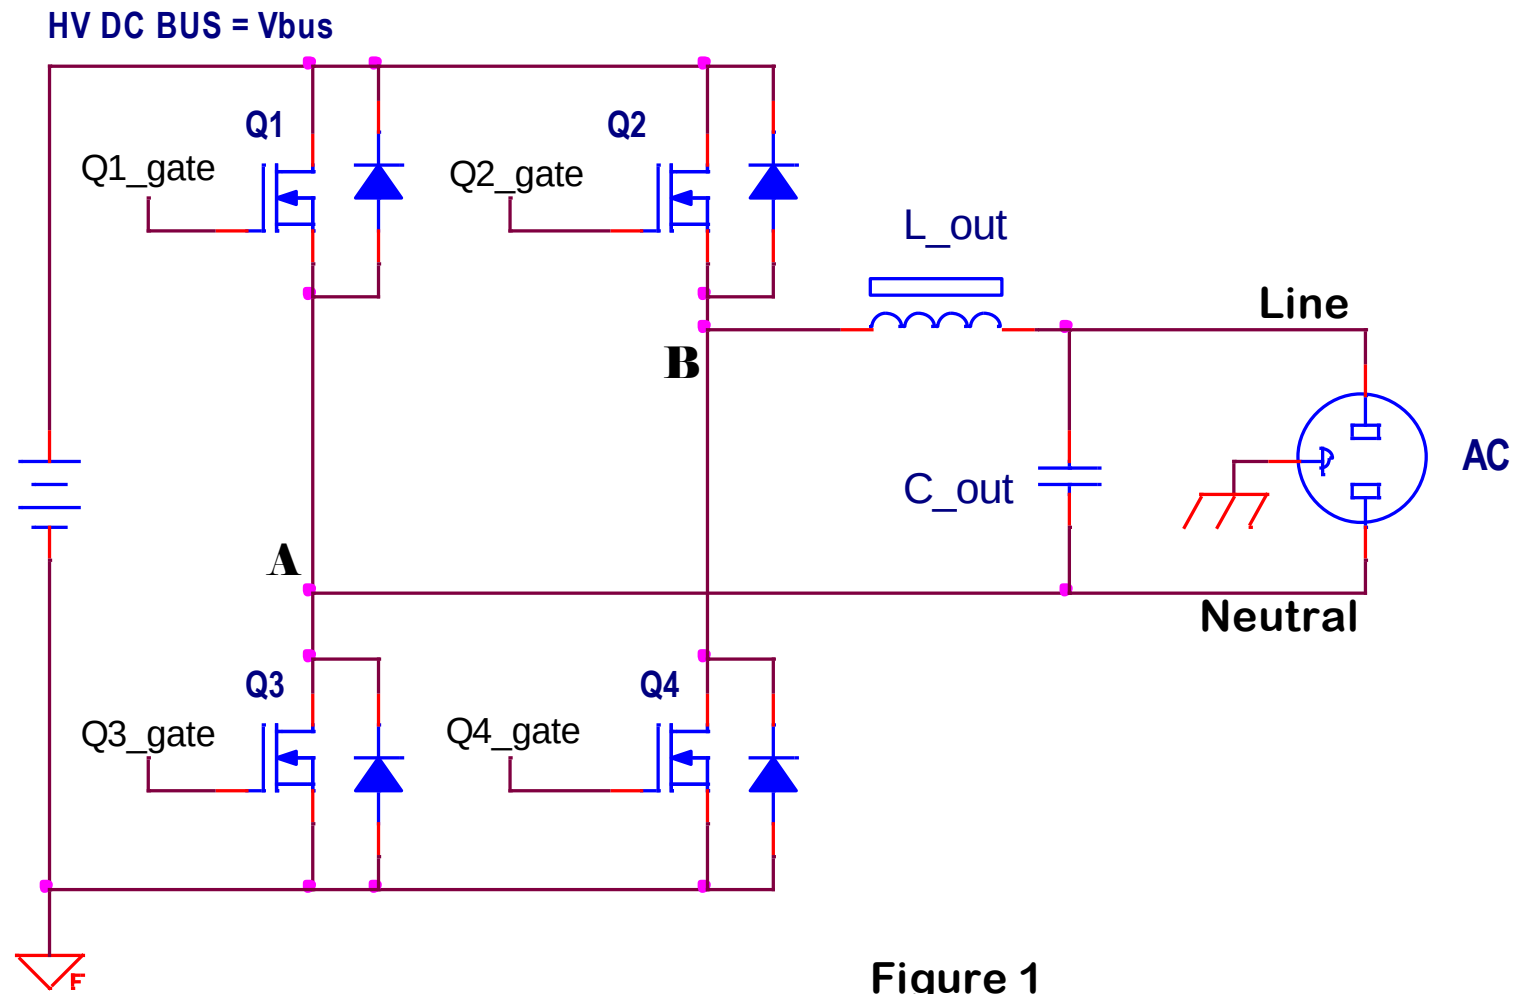
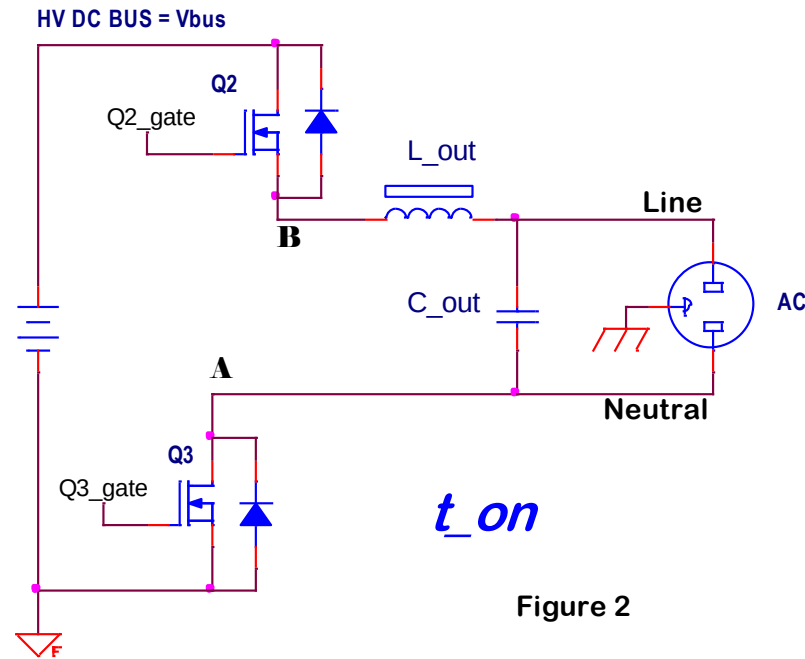
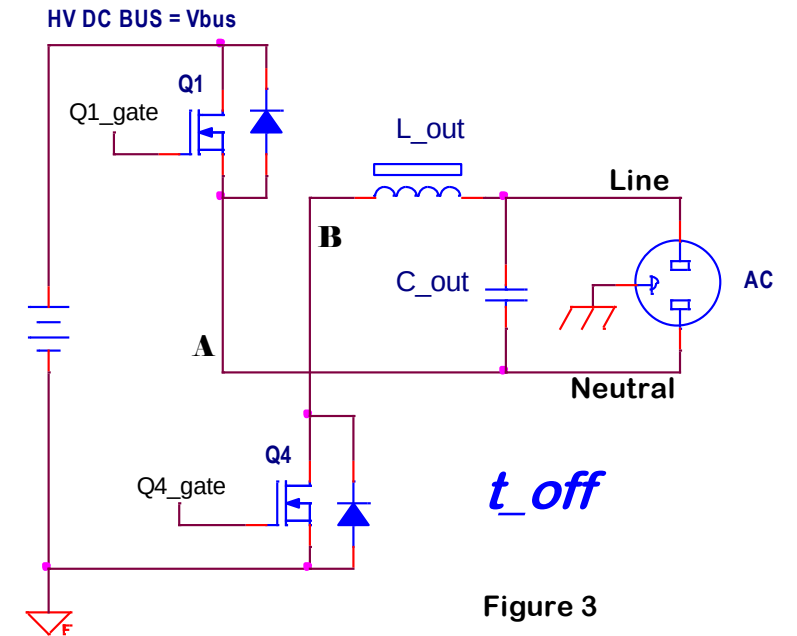

Figure 1
Figure 2
Figure 3
- For bipolar modulation, both legs of the H-Bridge (noted as A and B in Figure 1) switch at high frequency. In this configuration Q2 and Q3 conduct simultaneously and Q1 and Q4 conduct simultaneously. Refer to the Bipolar Waveforms timing diagram. During the positive half cycle of an AC output voltage waveform, we define the “on time” when Q2 and Q3 are conducting and the “off time” when Q1 and Q4 are conducting. Referring to Figure 2, during  $t_{on}$ , the voltage on  $L_{out}$  equals  $V_{bus}$  minus the instantaneous output voltage. Referring to Figure 3, during  $t_{off}$ , the inductor voltage equals the instantaneous output voltage plus  $V_{bus}$ .